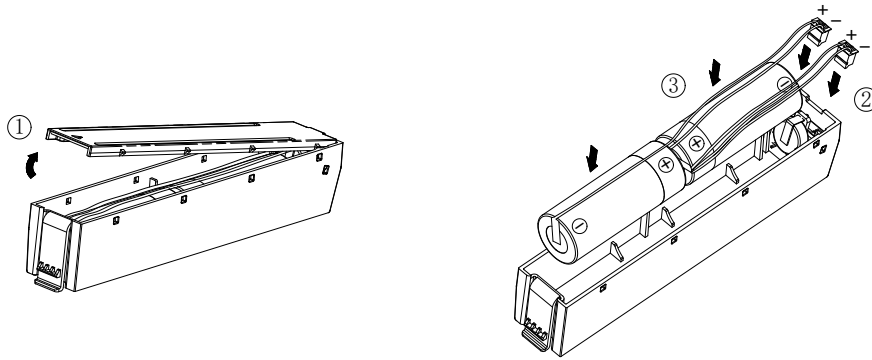

Figure 4-11 Remove the cover plate and install the encoder battery
1. As shown in the left figure of Figure 4-11, Lift the battery box cover up from the side of the active buckle(The side with triangular markings on the cover plate),remove the cover plate.
2. As shown in the right figure of Figure 4-11, insert the two battery lead plugs into the corresponding two sockets in the battery box in the positive and negative directions as shown in the diagram, and install the two batteries into the battery box in the direction shown in the diagram.